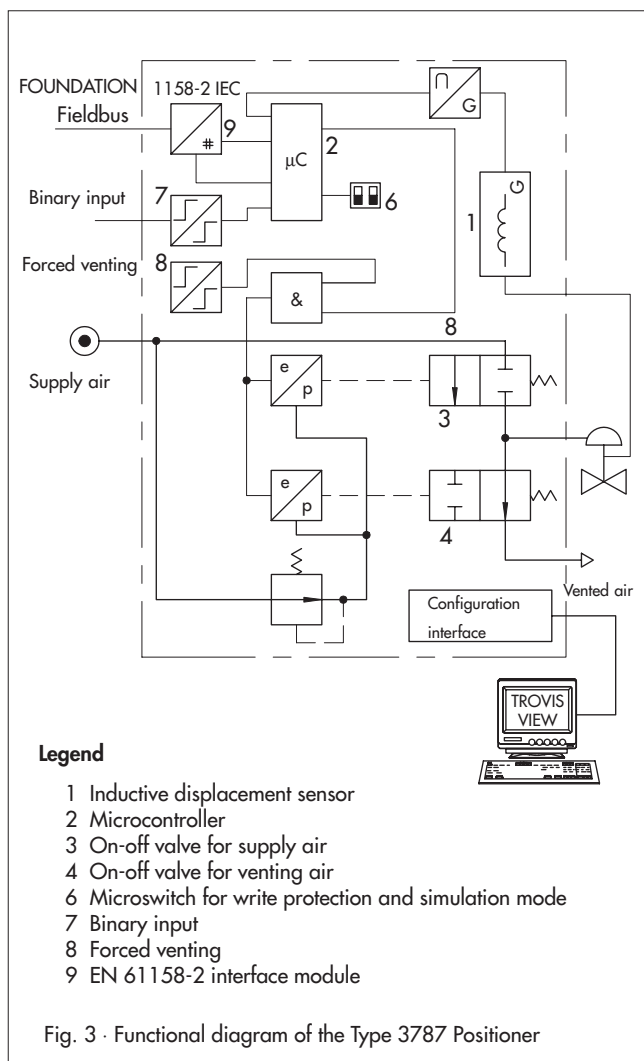

Fig. 3 · Functional diagram of the Type 3787 Positioner
- Forced fail-safe venting action · Upon absence of an external signal, the 2/2-way on-off valve (Fig. 3, item number 4) causes air to be vented. In effect, the control valve is forced in the fail-safe position. The venting function acts directly on the pneumatic block and remains unaffected by the output variable of the micro-controller.
Principle of operation (Fig. 3)